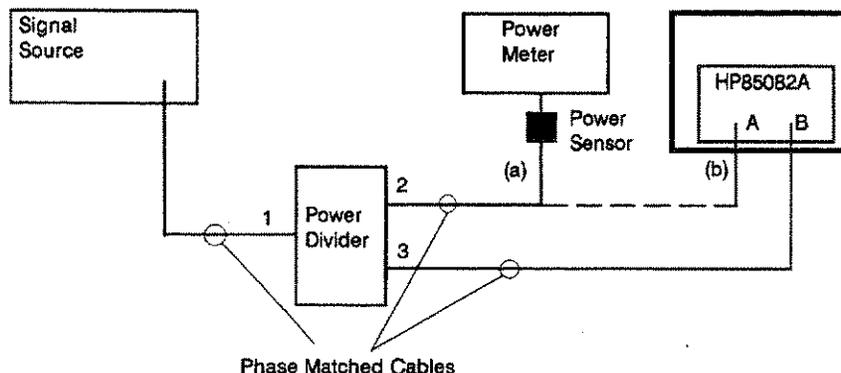

Figure 5-7. Channel Gain Setup
1. Configure the equipment as shown in Figure 5-7 step (a), using the phase matched cables to connect the power divider to the signal source, power meter, and HP 85082A.
6. Reconfigure the equipment as in Figure 5-7 step (b).